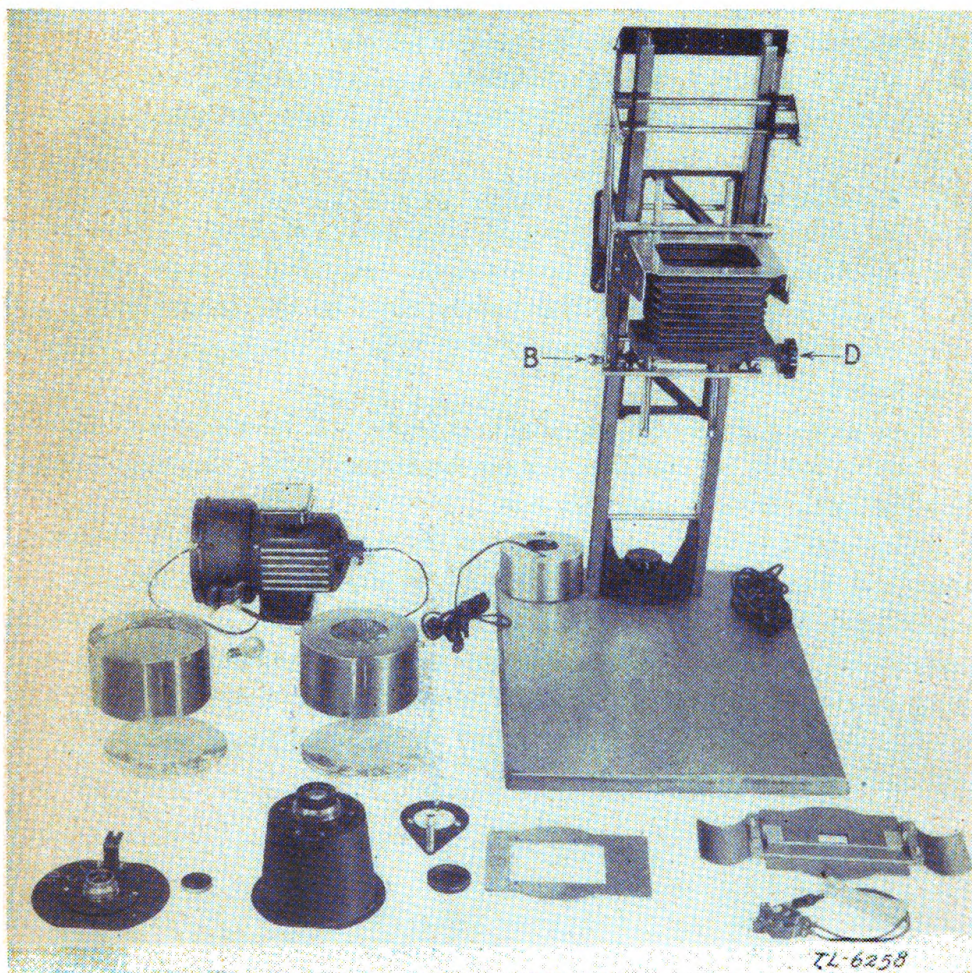

FIGURE 6.—Printer disassembled showing component parts.
b. Condensing lenses.—To clean the condensing lenses, remove the two knurled screws holding the condenser housing to the lamp house (fig. 6). Hold the condenser housing with the right hand, and pull